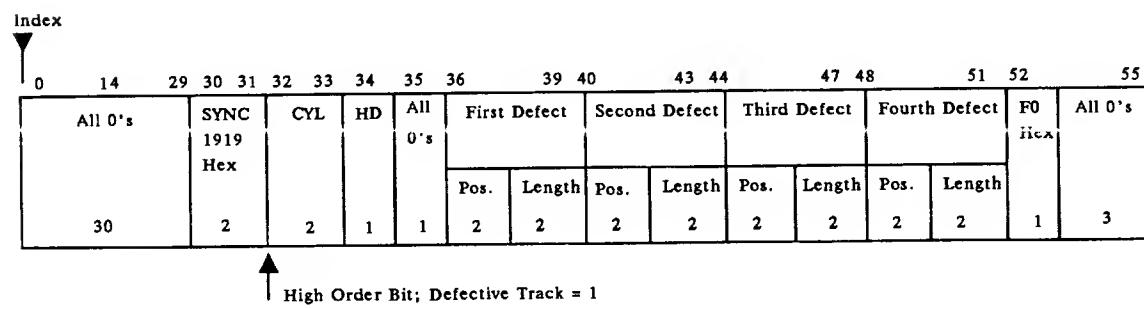

Figure 8-1. Defect Map Format
6. Figure 8-1 shows the format when there are no defects in the first 105 bytes after index.